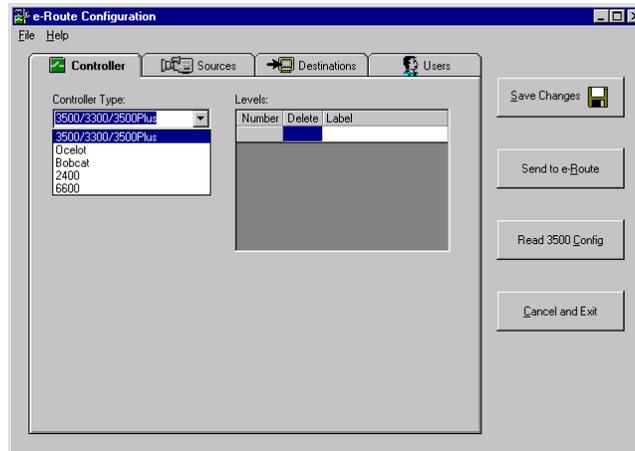

Figure 23. e-Route Configuration Controller Type Selection
1. Select the system controller from the **Controller Type** drop box on the **Controller** tab as shown in Figure 23.